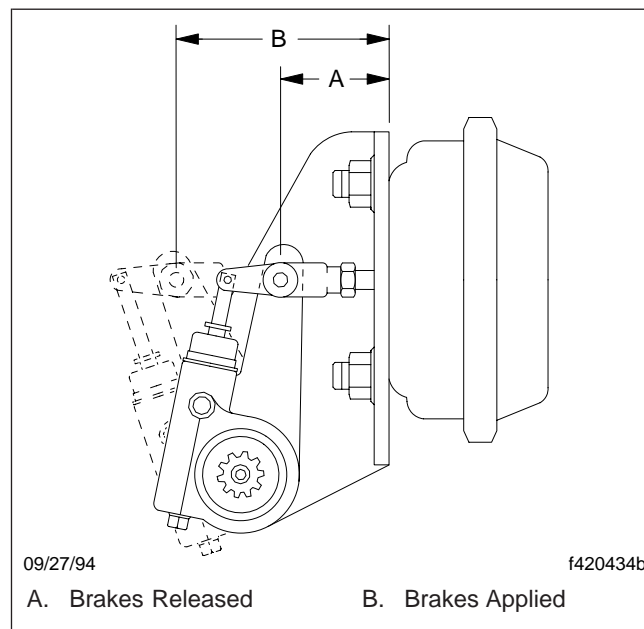

Fig. 4, Stroke Measurements
- 7.1 With the brakes fully released, use a ruler to measure the distance from the bottom of the brake chamber to the center of the large clevis pin. See Fig. 4.
- 7.2 Build air pressure to at least 85 psi (586 kPa). Apply the brakes, then measure the distance from the bottom of the brake chamber to the center of the large clevis pin. See Fig. 4. The difference between the measurements is the brake chamber stroke.